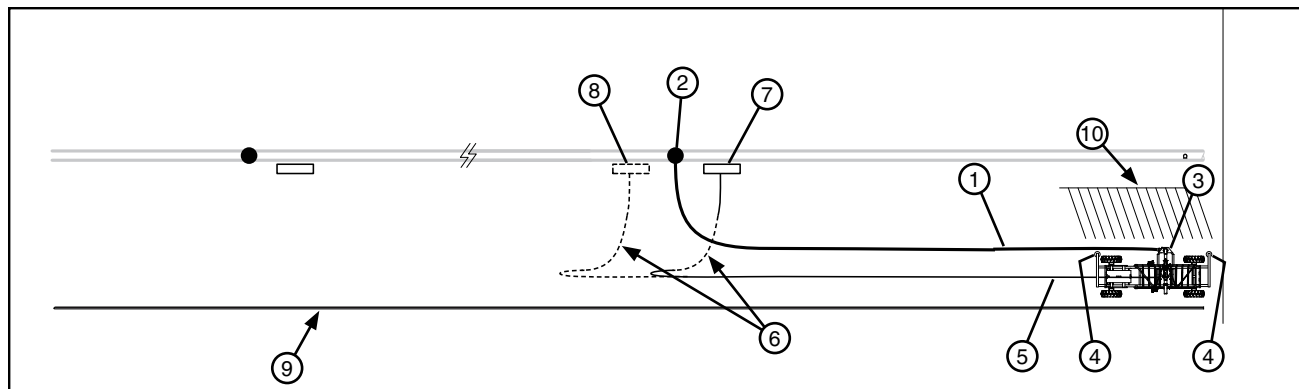

Figure 52-1 1. Hose
- (b) Position the electric cord far enough away from the hose, so that the hose will not drag over it. To prevent interference between the electric cord, cart tires and hose, bury the electric cord in the area where interference will occur or when applicable, position the electric cord over the top of hose. See Figure 52-1.